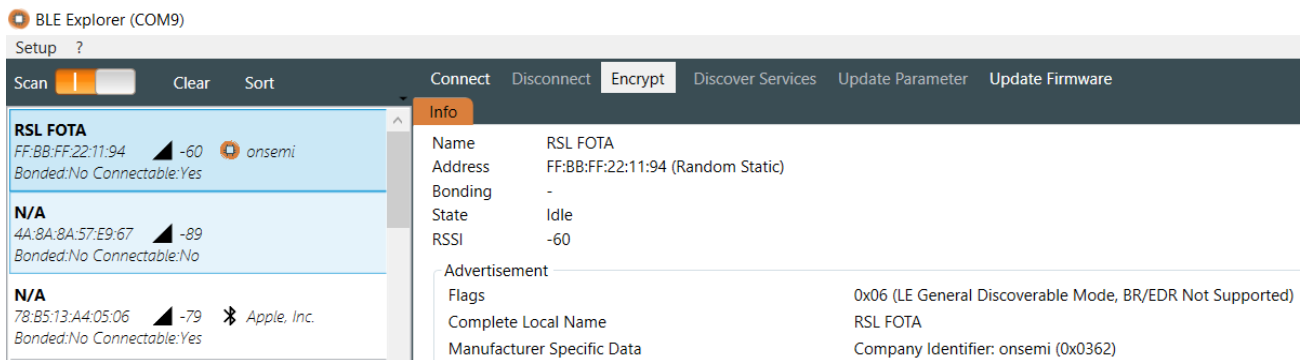

Figure 20. FOTA DFU Mode Running
4. Connect the FOTA_GPIO (GPIO1) to ground so that the device starts the FOTA DFU mode. You can see the name **RSL FOTA** on the RSL BLE Explorer. After checking that the name is **RSL FOTA**, disconnect FOTA_GPIO from ground, as in the figure "FOTA DFU Mode Running" (Figure 20), below: